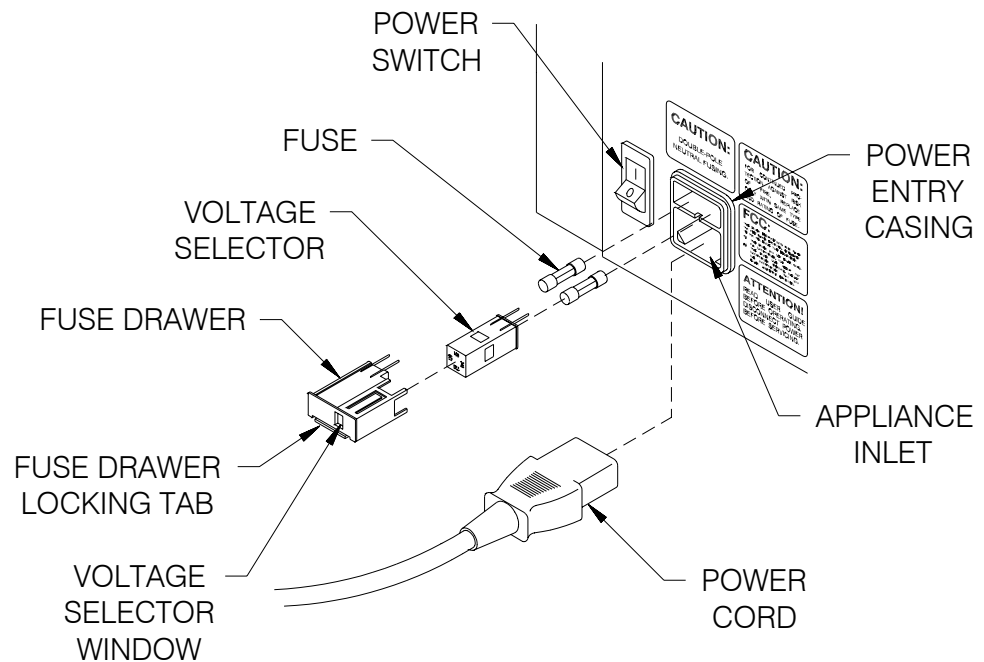

Figure 4.1 -- Power Entry
(Refer to **Figure 4.1.**) To select a different voltage, use the following instructions:
The FUSE DRAWER, located on the input end, contains two LINE FUSES. (Refer to **Figure 4.1.**) The neutral and hot lines of power are fused. Both LINE FUSES must be in place for the DI-100 to operate properly.
1. Plug the POWER CORD into the APPLIANCE INLET on the non-operator side. (Refer to **Figure 4.1.**)